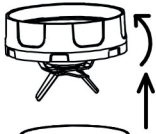

Fig 14
- First mix the contents as per the previous instructions. Unscrew the blade unit (6) from the bottle opening. Fig 14.